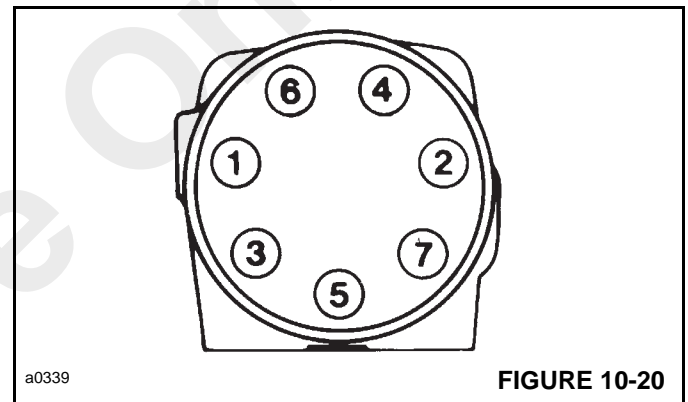

FIGURE 10-20
24. Install seal (13) into end cap (18). Install end cap (18) onto gerotor (16). Align the bolt holes.
25. Install the seven 6 pt. Torx Drive screws with new seal washers in the end cap. Tighten each screw to 150 lb-in., then tighten each screw in sequence shown in Figure 10-20 to a torque of 31 Nm (275 lb-in).